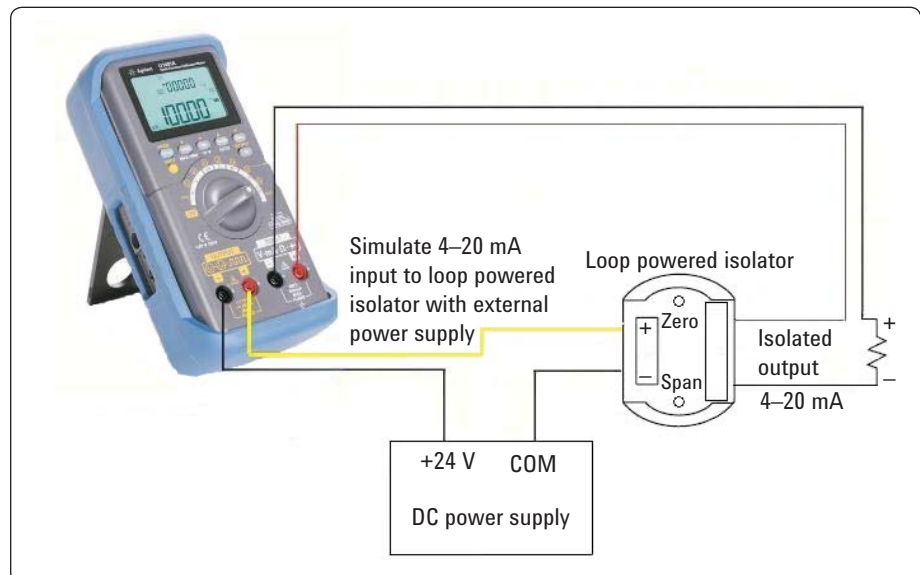

Figure 3. Calibrating turbine flow meter signal conditioner
7. Connect the loop powered isolated output to the current measurement terminal of the U1401A. See Figure 3.